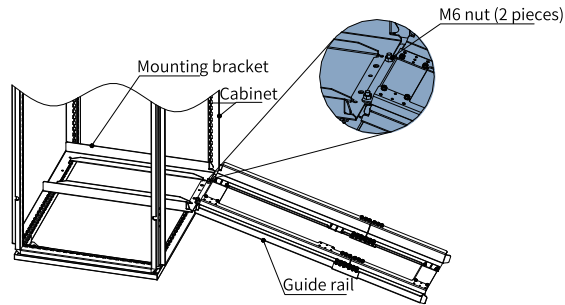

Figure 5-20 Mounting the guide rails on the cabinet
b. Align the two round holes on the front end of the guide rails with the screws of the mounting bracket, and lock them with two M6 nuts, to mount the guide rails on the cabinet, as shown in "Figure 5-20 " on page 63 .